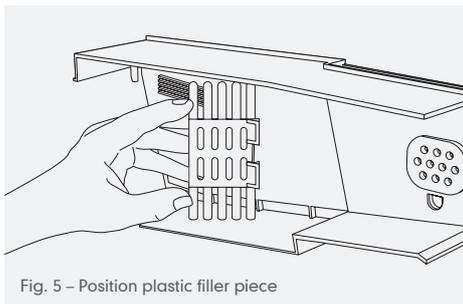

Fig. 5 – Position plastic filler piece
- 5 The filler piece prevents the ingress of birds and insects. Insert the plastic filler piece into the locating upstands on the rear of the dry verge as illustrated in Figs. 5 and 6.